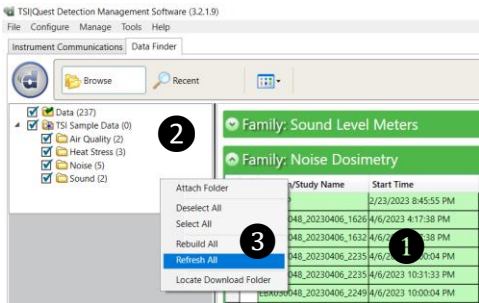
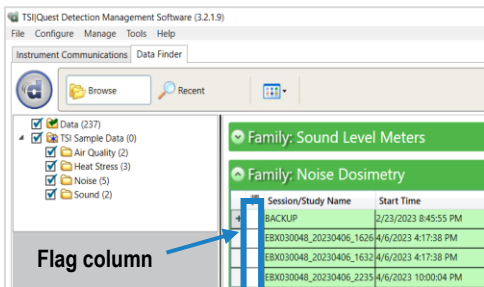

Figure 1-13: Data finder: Refresh data files
Figure 1-14: Data finder: Flagging
A flag in this column (see Figure 1-14) next to the session/study name indicates that the information for the record is out of date. To update, click **Refresh All** (see ❸ in Figure 1-13)